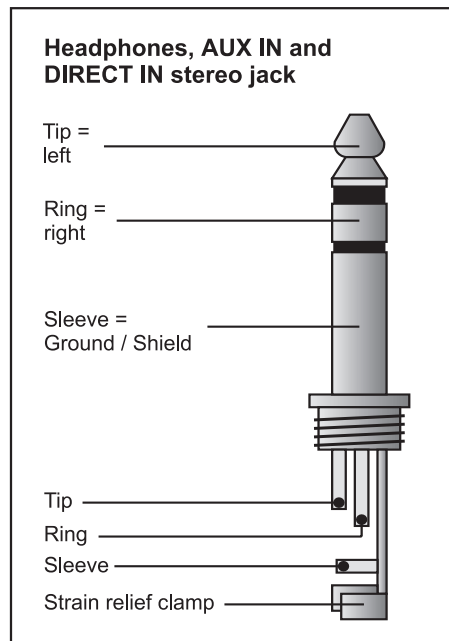

Fig. 3.2: Connector for the headphones, AUX IN and DIRECT IN
- 1 The *DIRECT IN* stereo input is used to apply the signals coming from an external source. When using the *DIRECT IN* input, the *MAIN* signal applied on the rear panel is interrupted automatically (fig. 3.2).
- 5 A further input signal can be added to the *MAIN* and/or *DIRECT IN* signal via the *AUX IN* (fig. 3.2).